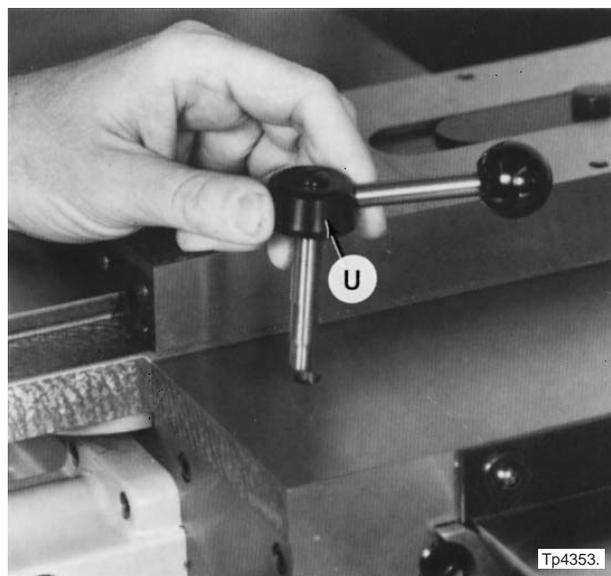

Figure 1.26 - Carriage Lock Handle
2. Place handle "U", Figure 1.26, in the unlocked position.
2. Replace handle "U", Figure 1.26 .